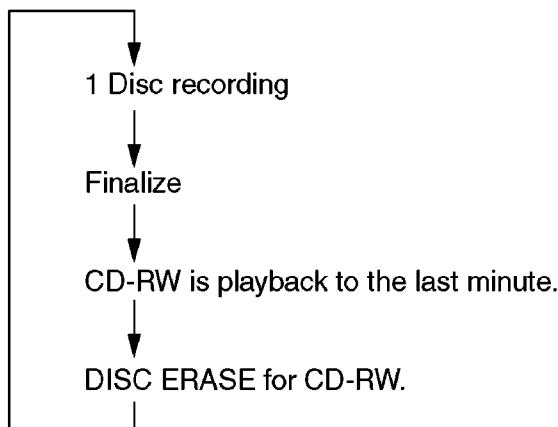

Fig. 12-2
3. The under-mentioned operation starts when "SET" key is pushed. (Refer to Fig. 12-2.)